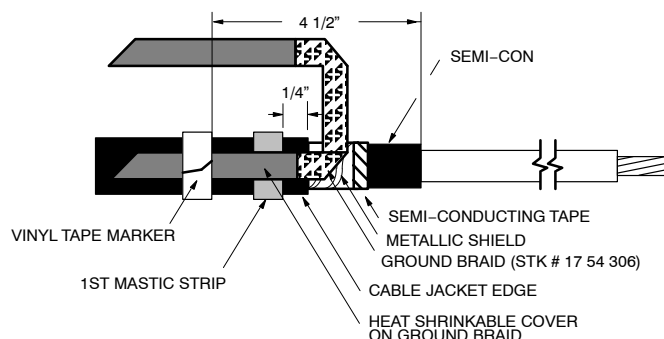

FIGURE 3A
3. Position a preformed ground braid (Stk. #17-54-306) with the "U" section over the metallic shield directly adjacent to the cable jacket cut edge. Position one tail of the ground braid over the cable jacket with the heat-shrinkable covering in contact with the mastic strip. Secure the tail to the cable jacket 4-1/2" from the edge of the semi-con using vinyl tape. Note: Position the vinyl tape with care since it also serves as a marker for positioning the terminator. See Figure 3A.